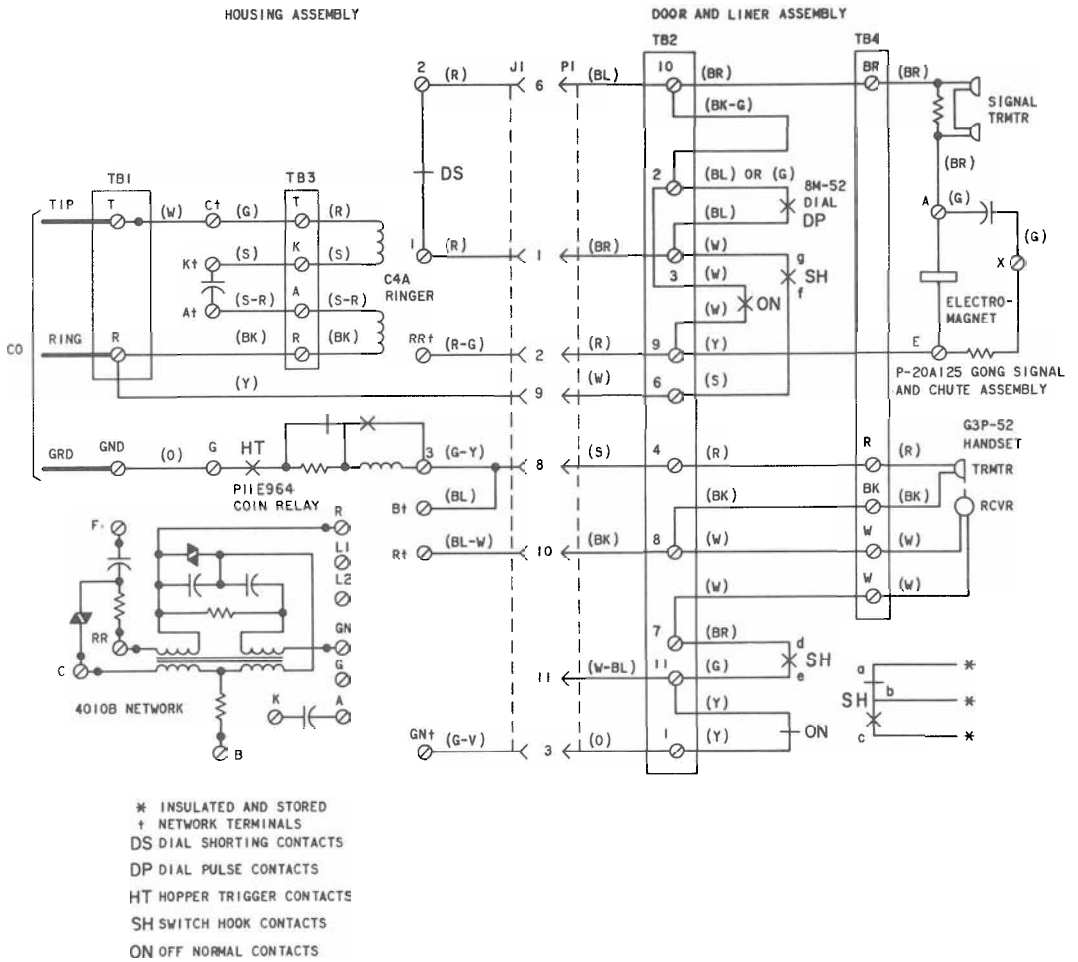

Fig. 10—235G Coin Collector, Connections
3.01 For connection information refer to Fig. 10 and 11.